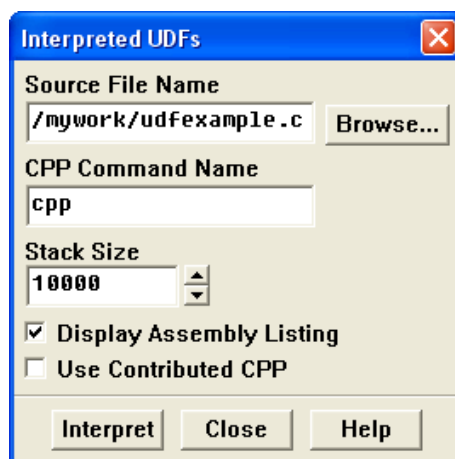

Figure 4.2.1: The Interpreted UDFs Panel
4. Open the Interpreted UDFs panel (Figure 4.2.1).
The Select File panel will close and the complete path to the file you selected (e.g., udfexample.c) will appear under Source File Name in the Interpreted UDFs panel (Figure 4.2.1).